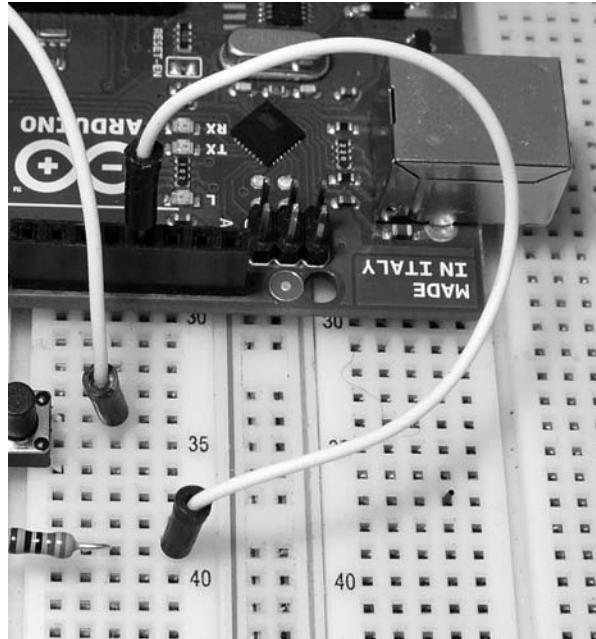

Figure 4-25: Connecting the LED branch to the Arduino
6. Connect a wire from the right side of the  $560\ \Omega$  resistor to Arduino digital pin 12, as shown in Figure 4-25.